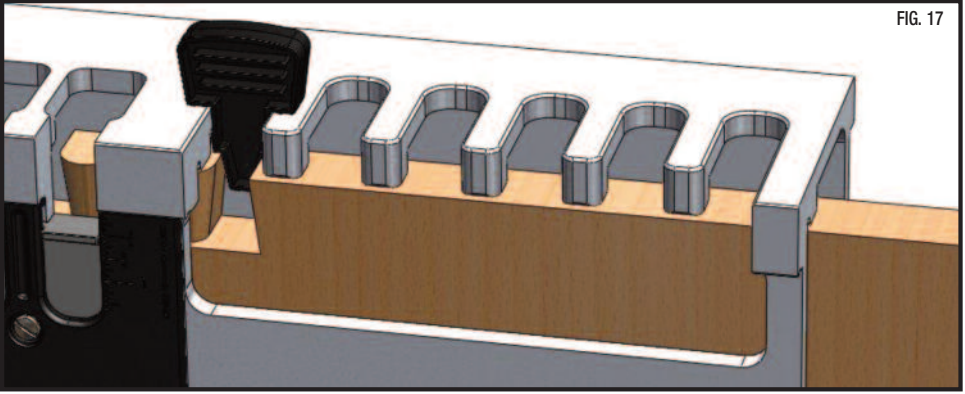

FIG. 18
1. In order to join two pieces of wood using a Dovetail-Joint the round-over created by the dovetail jig must be avoided. (FIG. 18)